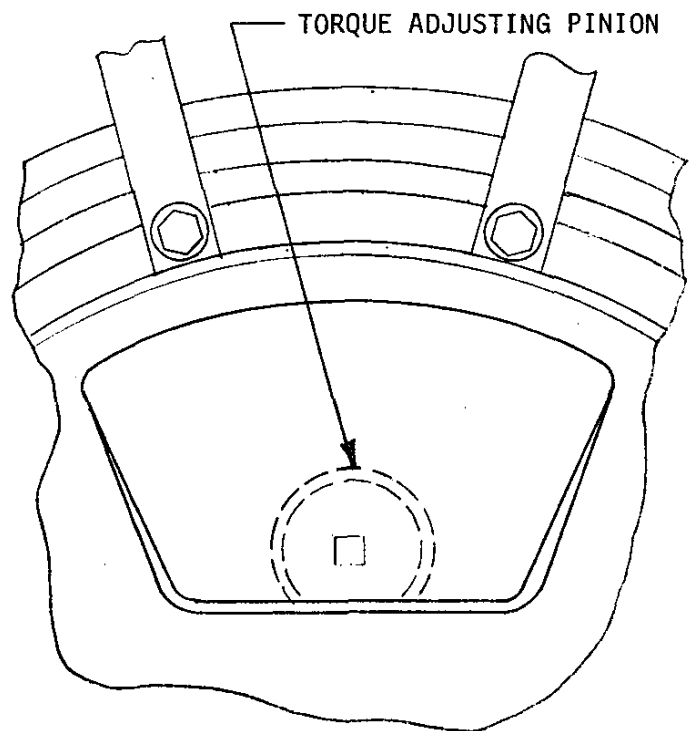

FIG. 4
3. Rotate the cable reel which is secured to the torque regulator outer casings OR energize the reel momentarily to bring the torque adjusting pinion opposite access "A" as shown in Fig. 4.
4. Insert the torque adjusting key (12mm or .5" square) in the square hole at the center of adjusting pinion.